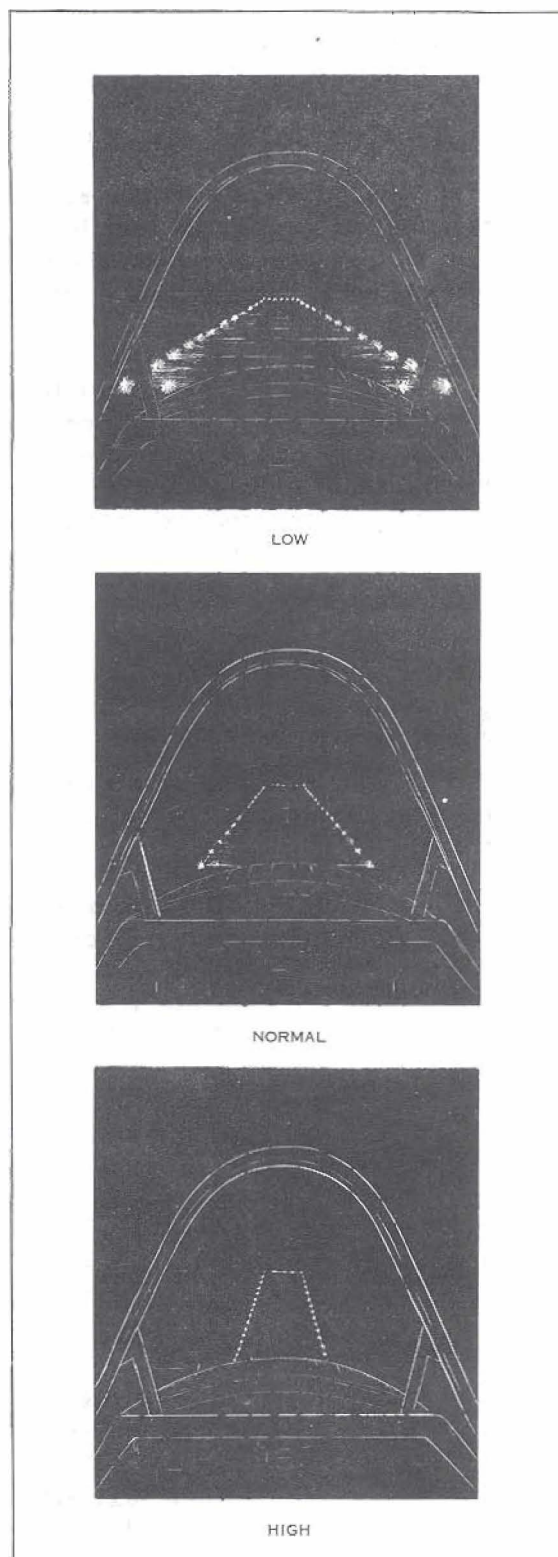

Figure 2: The Approach Angle at Night
(9) During the pre-night-flying briefing, your instructor will run over night-landing techniques and procedures, making special mention of any local regulations which are in effect. When coming in on the approach, do not switch on the landing light until you are approximately 300 feet AGL. If you find that you are undershooting, open the throttle IMMEDIATELY and overshoot. Do not hesitate. Avoid low, drag-in approaches of the type shown at the top of Figure 2 overleaf.